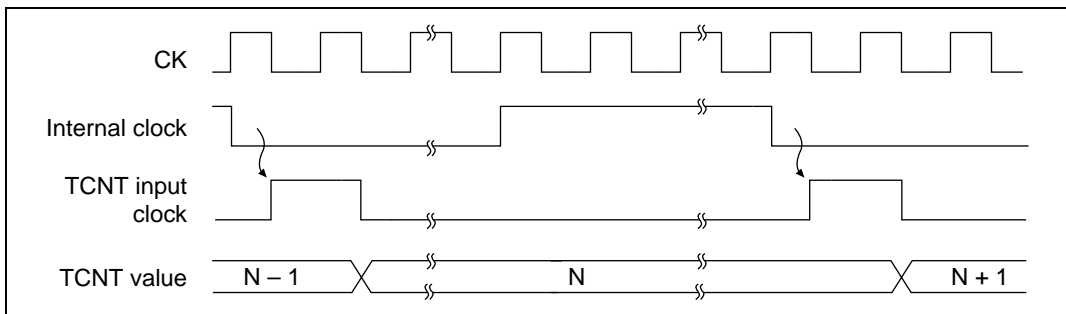

Figure 10.17 Count Timing for Internal Clock Sources
Internal clock source: Bits TPSC2–TPSC0 in TCR select the system clock (CK) or one of three internal clock sources ($\phi/2$, $\phi/4$, $\phi/8$) obtained by prescaling the system clock. Figure 10.17 shows the timing.